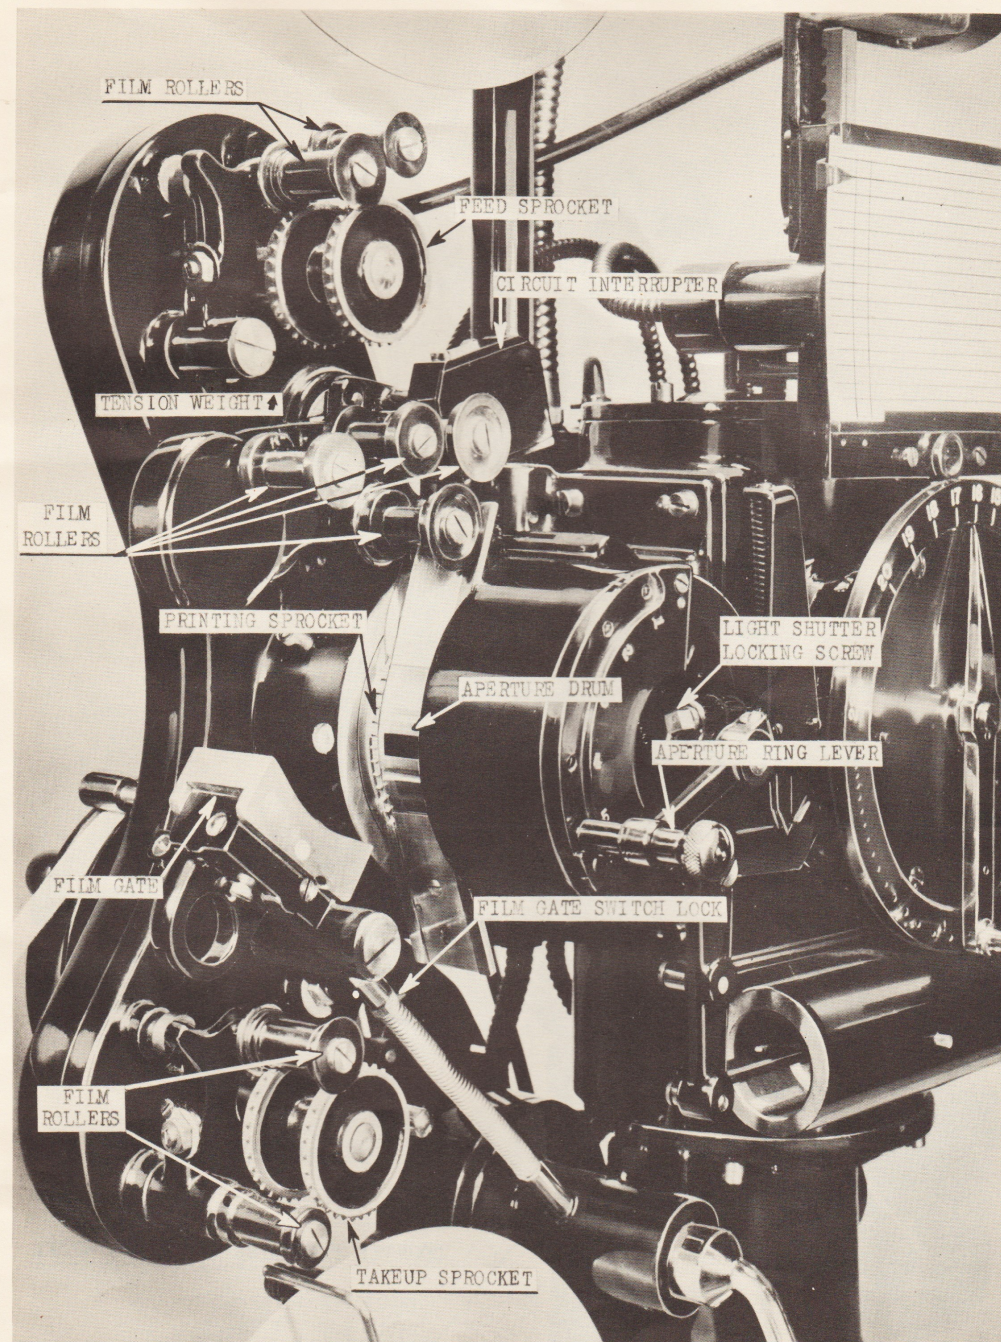

FIGURE 3 - PRINTING MECHANISM.
3. Film Movement Mechanism. (figure 3.)
4. Film Gate. (figure 3.)
5. Film Rollers. (figure 3.)
D. SETTING OF PRINTING APERTURE (figure 3.)